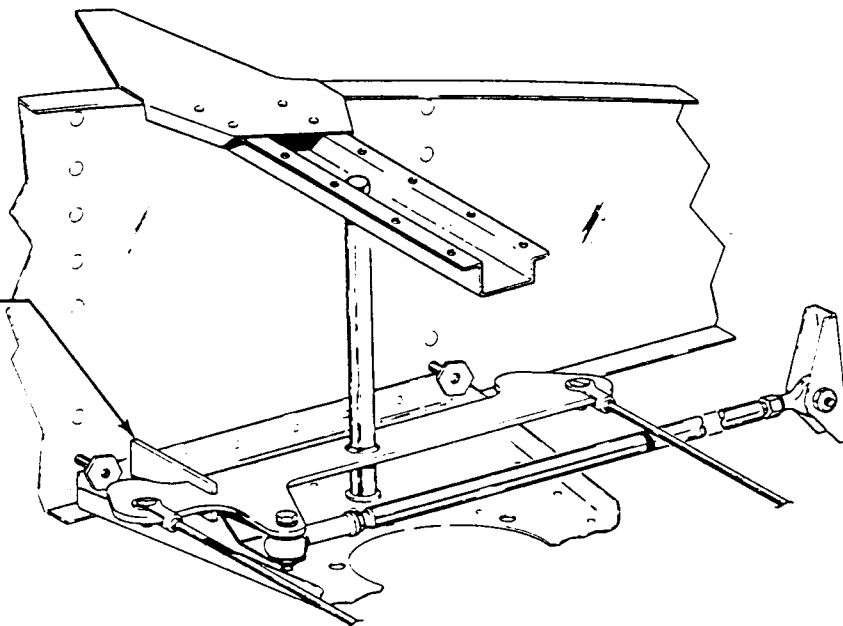

Figure 27-5. Bellcrank Rigging Tool
RIGGING AND ADJUSTMENT OF AILERON CONTROLS (figures 27-5 and 27-6)
- b. Attach a bellcrank rigging tool, as shown in figure 27-5, between forward arm of each bellcrank and adjacent rib. (This tool can be fabricated from dimensions given in chapter 95.) Slotted end of tool fits on arm forward of and adjacent to primary control cable end. The other end of tool is positioned so that side of tool contacts aft side of bellcrank stop. bellcrank must be moved to allow a snug fit of tool between bellcrank arm and rib. To do so, it may be necessary to loosen a primary control cable or balance cable. Neutral position of bellcranks is where forward and aft cable connection holes are an equal distance from adjacent outboard wing rib.